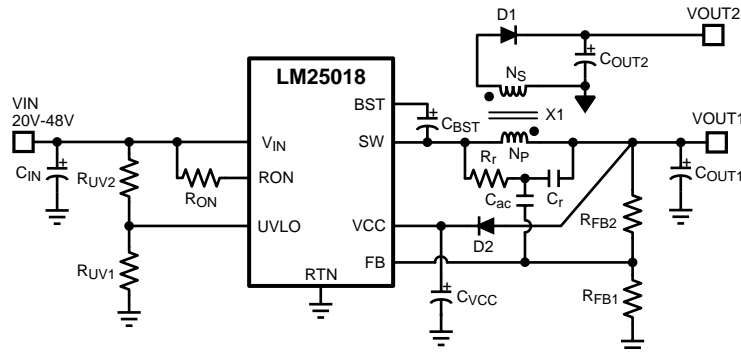

Figure 17. Typical Isolated Application Schematic
An isolated supply using LM25018 is shown in Figure 17 below. Inductor (L) in a typical buck circuit is replaced with a coupled inductor (X1). A diode (D1) is used to rectify the voltage on a secondary output. The nominal voltage at the secondary output (V_{OUT2}) is given by: